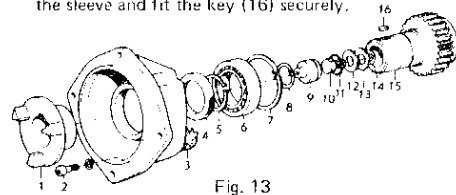

Fig. 13
2. Press the bearing (6, Fig. 13) into the front housing with the help of drift 884500.
3. Secure the bearing with the circlip (7).
4. Press the gear wheel (15) into the bearing with the help of drift 884263. NOTE! Counterhold (tool 884488) must be placed against the bearing inner ring.
5. Secure the gear wheel with the circlip (5).
6. To protect the sealing ring (4) when installing, first place sleeve 884487 on the shaft end of the gear wheel. Apply a little grease to the sealing ring and fit it (the side with the spring should face the bearing). NOTE! The sealing ring may only be pushed in so far that it is flush with the edge of the housing. Remove the sleeve and fit the key (16) securely.